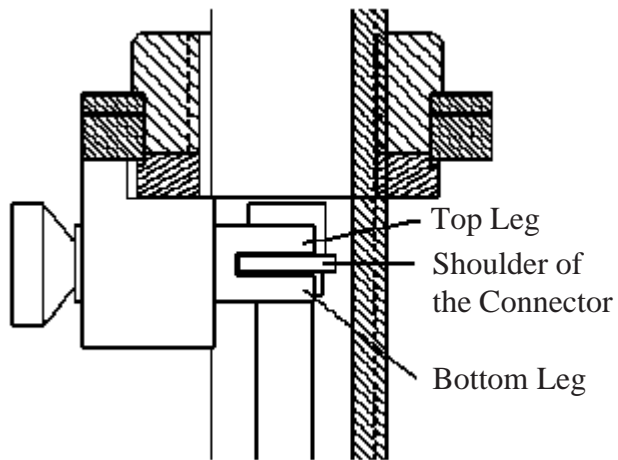

Figure 6. Insert Slide (Engaged Position)
7. Push in the INSERT SLIDE to the ENGAGED POSITION, so that the TOP LEG rests on the SHOULDER OF THE CONNECTOR. (See **Figure 6**.)
2. Move the INSERT SLIDE to the ENGAGED POSITION so that the SHOULDER of the PROBE CONNECTOR is held by the INSERT SLIDE. (See **Figure 6**.)